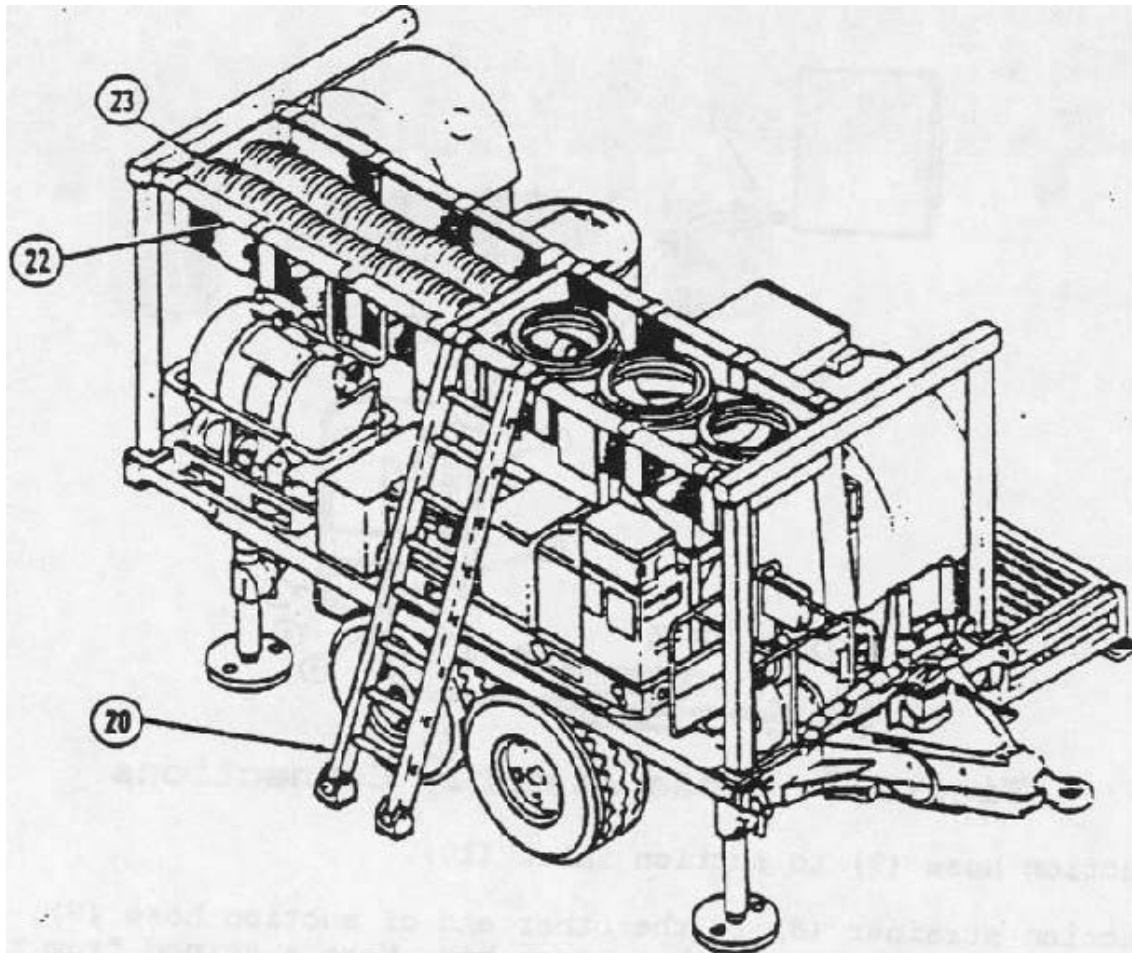

Figure 3-16
- k. Unhook two straps (16) and remove ladder (20) from two struts (13).
- l. Remove four ball locking pin (15) from left beam and center beam (17), and remove the two struts (13).
- m. Remove two ball locking pins (18) from left beam (17) and remove left beam from front and back frame assemblies (14). Store left beam (17) underneath trailer. (See Figure 3-16)
- p. Store tarp assembly, two struts, and work stand storage supports in hose basket assemblies. (See Figure 3-16)